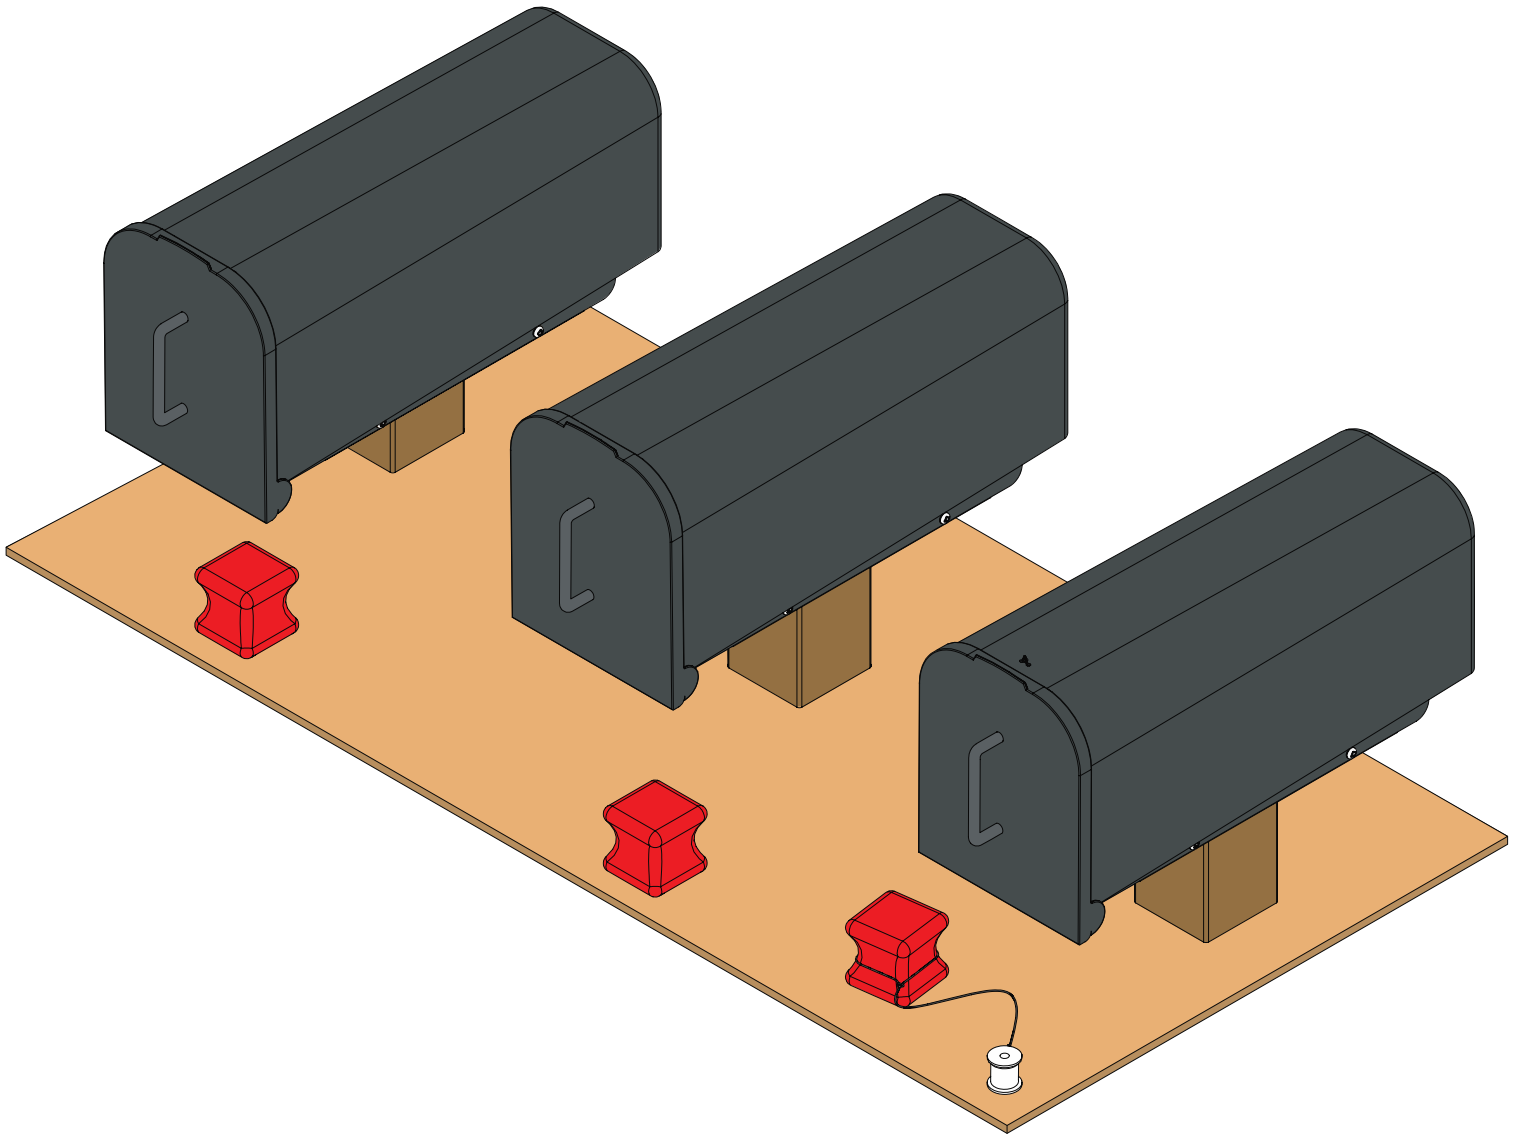

Figure 1
- Each mailbox will be equipped with a handle on the exterior of door to afford a point of contact for the arm mechanism of the robot in addition to the original features inherent to the supplied/recommended mailboxes. (See Figure 1.)